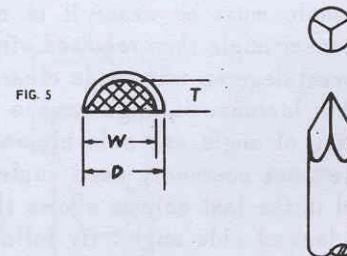

FIG. 6
c) Turn collar M counter-clockwise (to left) until clearance stop L1 touches corner of cut-out in ring A2 (see Fig. 5). Index plunger A will now engage in proper spindle notch. Lock cutter in collet with roughed or worn flat against aligning bar A1 (see Fig. 6). Swing aligning bar away from cutter against index unit.
b) Set swivel arm B to desired angle and lock screw C1. Follow grinding instructions under cylindrical cutters until cutter is pointed or, on conical-flat cutters until tip 'W' is slightly smaller than required (see Fig. 5 and Fig. 6).
3) THREE AND FOUR SIDED PYRAMIDAL CUTTERS (see Fig. 6).
- d) Reposition cutter in collet so that the flat end of the cutter just contacts the wheel (see Fig. 6). Be sure to keep the flat side of cutter in alignment with aligning bar A1.